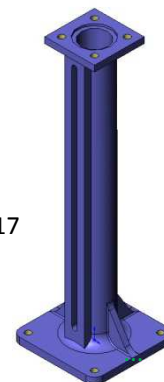

fig. 17
- Straight floor stands (fig. 17)